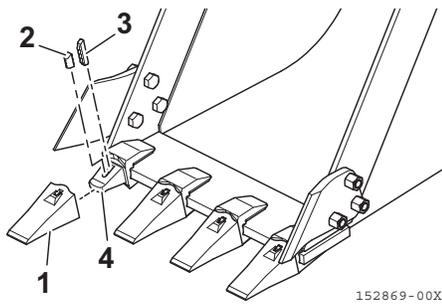
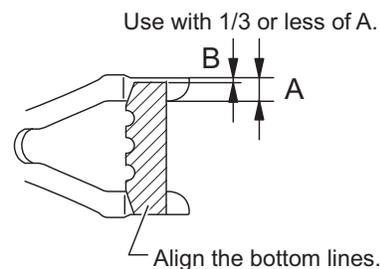

Fig. 8-31
Fig. 8-34
Replace the teeth before the point (Fig. 8-31, 1) is worn to the adapter (Fig. 8-31, 4).
2. Strike out the locking pin (Fig. 8-31, 3) installed on the bucket with a hammer and punch to remove the point (Fig. 8-31, 1).
Do not strike the punch toward the rubber pin lock (Fig. 8-31, 2). Otherwise the rubber pin lock (Fig. 8-31, 2) may be damaged. Strike the tool toward the back of the pin.
3. Remove the rubber pin lock (Fig. 8-31, 2).
4. Check the removed rubber pin lock (Fig. 8-31, 2) and locking pin (Fig. 8-31, 3).
Using the rubber pin lock (Fig. 8-31, 2) and locking pin (Fig. 8-31, 3) in the conditions below may cause the point (Fig. 8-31, 1) to come off during operation. Replace the applicable part with a new one.
- There is a crack in the rubber of the rubber pin lock (Fig. 8-31, 2) and the roller may come off.
- With the lower side of the locking pin (Fig. 8-31, 3) aligned with the point bottom line, the dimension (Fig. 8-34, B) is equal to or more than 1/3 of the dimension (Fig. 8-34, A).
5. Clean the surface of adapter (**Fig. 8-31, 4**) with a tool such as a putty knife to remove the hard mud fixed on it.
6. Push the rubber pin lock (**Fig. 8-31, 2**) into the hole on the adapter (**Fig. 8-31, 4**) by hand or by a hammer.
Do not let the rubber pin lock (Fig. 8-31, 2**) come out of the adapter (**Fig. 8-31, 4**) surface.**
7. Install the point (**Fig. 8-31, 1**) to the adapter (**Fig. 8-31, 4**) and check that the rear surface of the pin hole on the point (**Fig. 8-31, 1**) is almost aligned with the rear surface of the pin hole on the adapter (**Fig. 8-31, 4**) when the point (**Fig. 8-31, 1**) is pushed strongly onto the adapter (**Fig. 8-31, 4**).
8. Insert the locking pin (**Fig. 8-31, 3**) into the pin hole on the point (**Fig. 8-31, 1**) and strike it so that the upper end of the locking pin (**Fig. 8-31, 3**) will be flush with the surface of the point.
- Replace the rubber pin lock (**Fig. 8-31, 2**) and locking pin (**Fig. 8-31, 3**) with new ones at the same time when replacing the point (**Fig. 8-31, 1**). This prevents the point (**Fig. 8-31, 1**) from coming off.